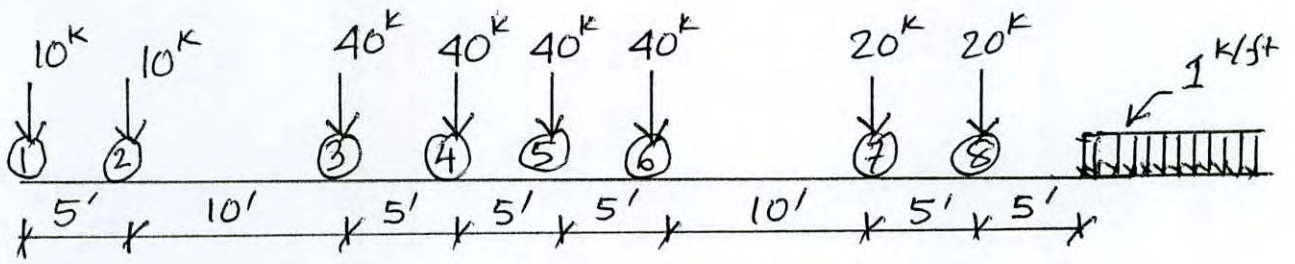
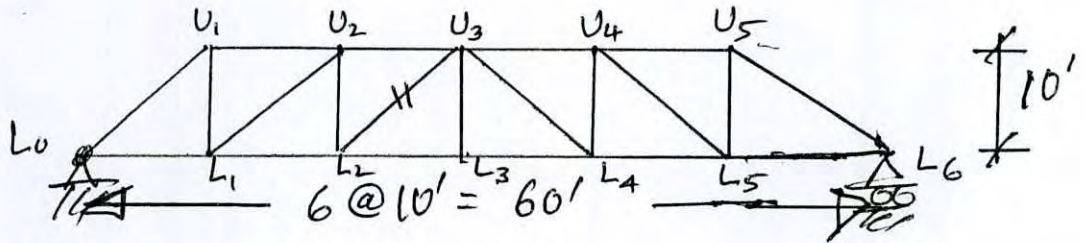

Fig. 1
Fig. 2
1. (a) A one-way slab supported on RC beams is shown in Fig. 1. The calculated dead load on the slab is 180 psf (working) and the slab is subjected to a working live load of 80 psf. The live load can occupy any portion or any position on the slab. Calculate the critical moments and design the slab using USD method. Show the slab reinforcements with neat sketches. Given: $f'_c = 3$ ksi and $f_y = 60$ ksi. (20)
- (b) What do you understand by the term "serviceability" in RC design? (6)
- (c) Discuss why and how temperature and shrinkage reinforcement is provided in one-way slabs. What are the ACI/BNBC recommended values for such steel? (9)
2. (a) Design the stirrups for the beam shown in Fig. 2. Use $f'_c = 3.5$ ksi, $f_y = 60$ ksi. Calculate stirrups with 3 sets of spacing. Show the stirrups in a neat sketch. (20)
- (b) What are the BNBC/ACI code provisions for beam stirrups (hoops) for moderate seismic risk region e.g. Dhaka. (9)
- (c) What are the function of stirrups in beams? (6)
3. (a) Show with neat sketches cut off or bend points for bars in approximately equal spans with uniformly distributed loads. (9)
- (b) Discuss briefly the factors that influence development length of a reinforcing bar. (10)
- (c) Calculate the development length of 20 mm and 25 mm uncoated top bars in USD. Repeat the calculation for other bars also. Use $f'_c = 3$ ksi and $f_y = 60$ ksi and assume appropriate value for any missing data. (10)
- (d) What is the minimum length of lap for column splices as per ACI/BNBC code? (6)
4. (a) Describe with neat sketches five reinforced concrete floor systems commonly used in Bangladesh. (10)
1. Find maximum shear at quarter point of a simply supported beam of 40 ft due to the wheel load shown in Fig. 1. (28)
2. Calculate maximum moment at one-third point of a simply supported beam of 60 ft for the wheel load shown in Fig. 1. (28)
3. Determine maximum stress for member L_2U_3 of the truss shown in Fig. 2. The wheel load is given in Fig. 1. (28)
Fig. 1 for Q. no. (7)
8. For a smooth vertical wall with cohesive soil backfill as shown in Fig. 2 below, compute the lateral thrust coming against the wall, showing the distribution of pressure. Compute the point of application of the thrust. Compute only the soil pressures. (23 1/3)
Fig. 2 for Q. no. (8)